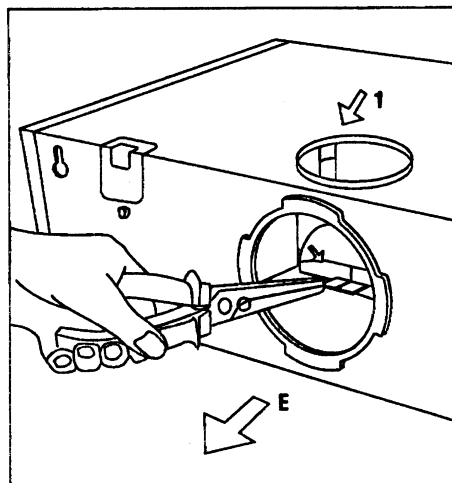

Fig. 6
**When using the rear outlet, the large rear section of the upward facing pipe must first be completely removed breaking away the section via the top outlet hole down through the double lines seen at both sides and the bottom (arrowed 1). Using pliers grip the tabs and pull away E (Fig. 6).**